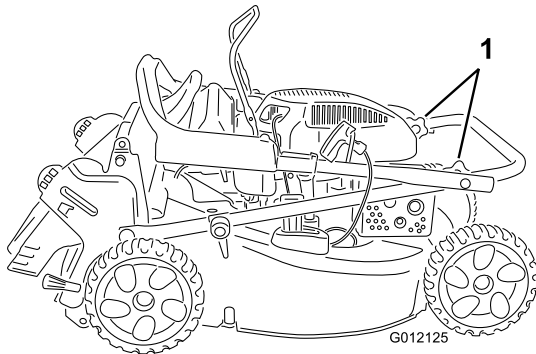

Figure 3
1. Loosen the upper handle knobs (Figure 3).
3. Tighten the handle knobs firmly by hand (Figure 3).